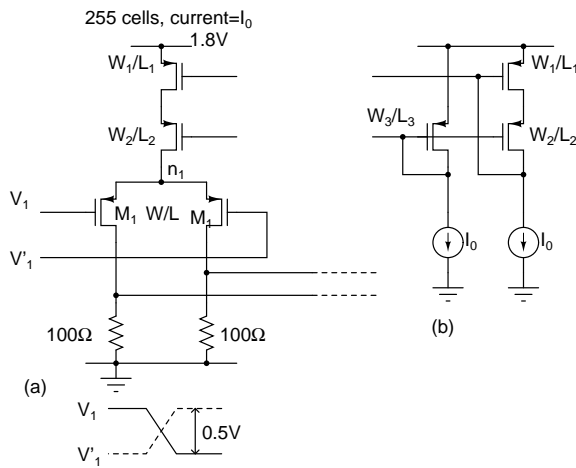

Figure 1:
1. A 8 bit DAC is built using the current steering cells shown in Fig. 1.
Design an appropriate bias circuit as shown in Fig. 1(b)